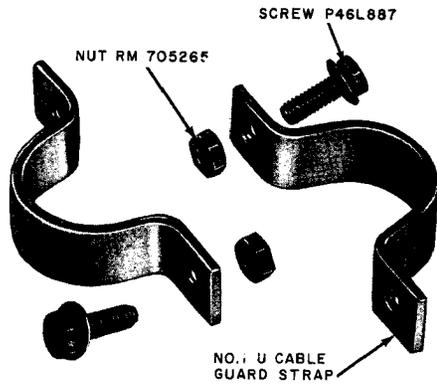

Fig. 2—197A Adapter
2.03 The 197A adapter (Fig. 2) is required when using 6-type closures at locations where more than one cable is carried on the strand. Assemble the 197A adapter as shown in Fig. 3.